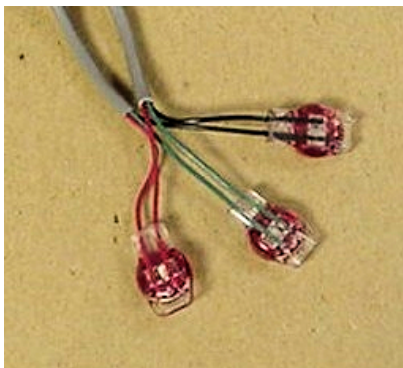

Figure 40 – Three Color Wires Connected
9. Repeat steps two through seven for each color wire. See Figure 40.